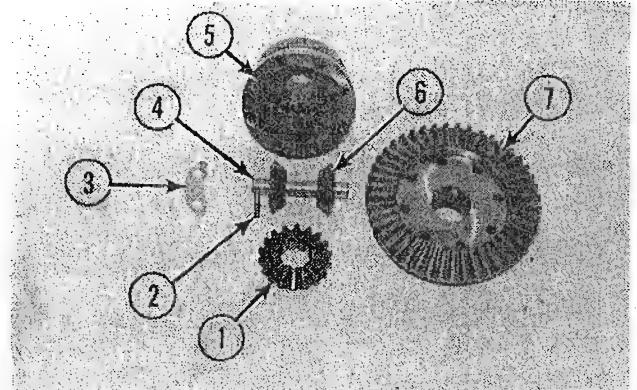

FIG. 2
Figure 2 identifies the parts of the front and rear ring gear and differential carrier sub-assemblies
- (1, Fig. 2) Planetary gears.
- (2, Fig. 2) Retaining pin.
- (3, Fig. 2) Locking plate.
- (4, Fig. 2) Cross pin.
- (5, Fig. 2) Differential carrier.
- (6, Fig. 2) Satellite gears.
- (7, Fig. 2) Ring gear.
Remove the planetary gears (1, Fig. 2) from the ring gear (7, Fig. 2) and carrier, (5, Fig. 2). Pull the retaining pin (2, Fig. 2) from the face of the carrier, tap out the cross pin (4, Fig. 2) and remove the (2) satellite gears (6, Fig. 2).